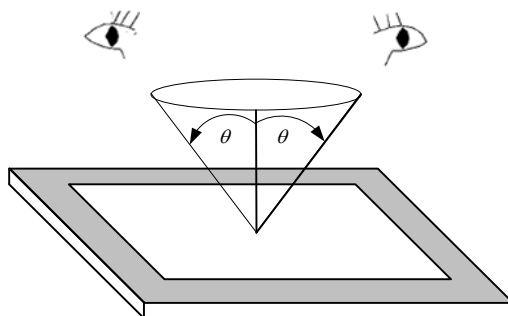

Fig. 11.1
- The viewing zone is defined with angle  $\theta$  shown in Fig. 11.1 The inspection should be performed within  $45^\circ$  when display is shut down. The inspection should be performed within  $5^\circ$  when display is power on.